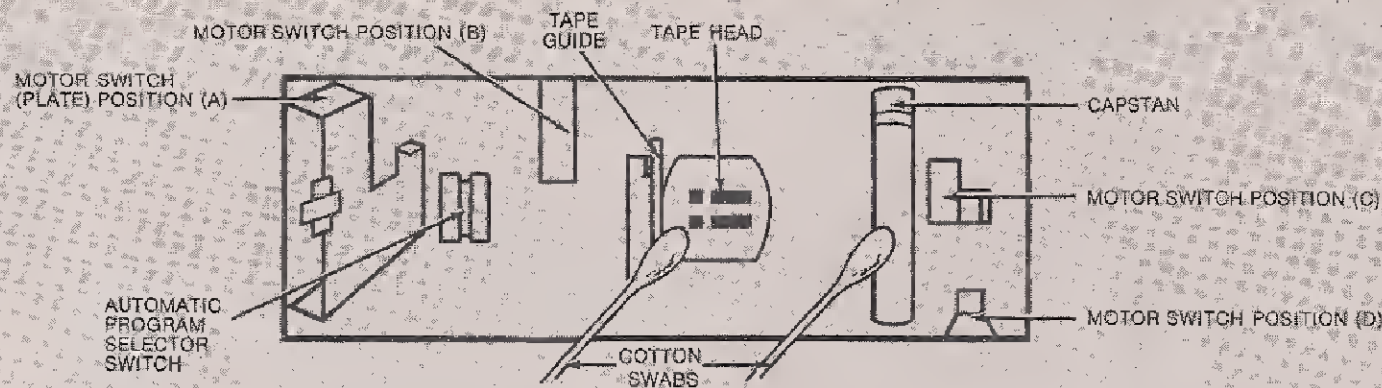

Figure 15
TAPE UNIT CLEANING (Refer to Figure 15)
2. While holding the Tape Door open, look at the inside of your tape unit. Locate the motor Switch (See Fig. 15). This switch may be in any of the four positions shown in Fig. 15, labeled A, B, C or D.